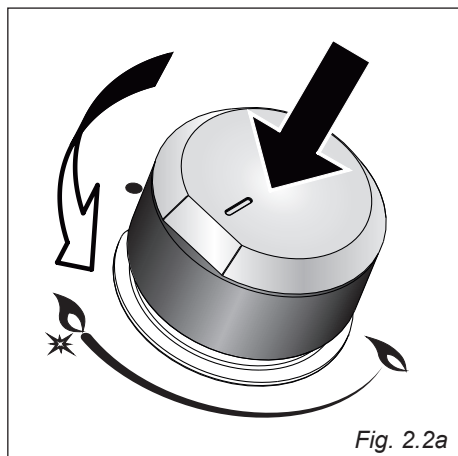

Fig. 2.2a
1. Press in the corresponding knob and turn counter-clockwise (fig. 2.2a or 2.2b) to the full flame position marked by the "★" or "9" symbol; hold the knob in until the flame has been lit.